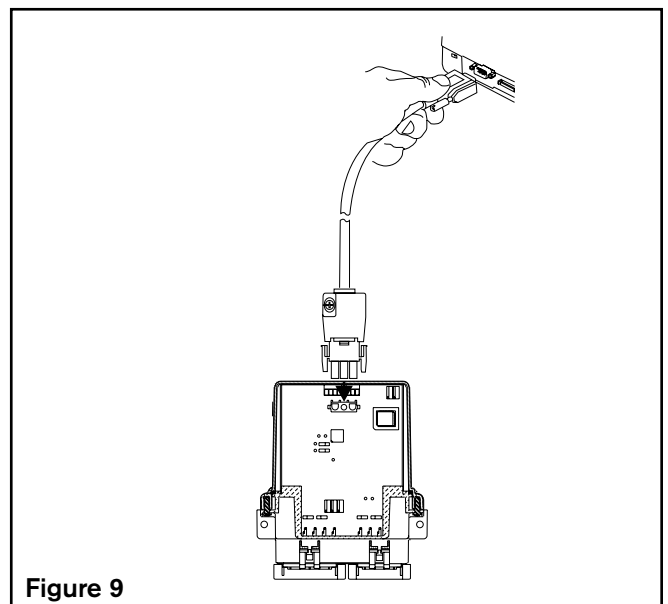

Figure 9
2. Connect the RSD Communications cable from the PC to the Auxiliary RS232 Port (see Figure 9).